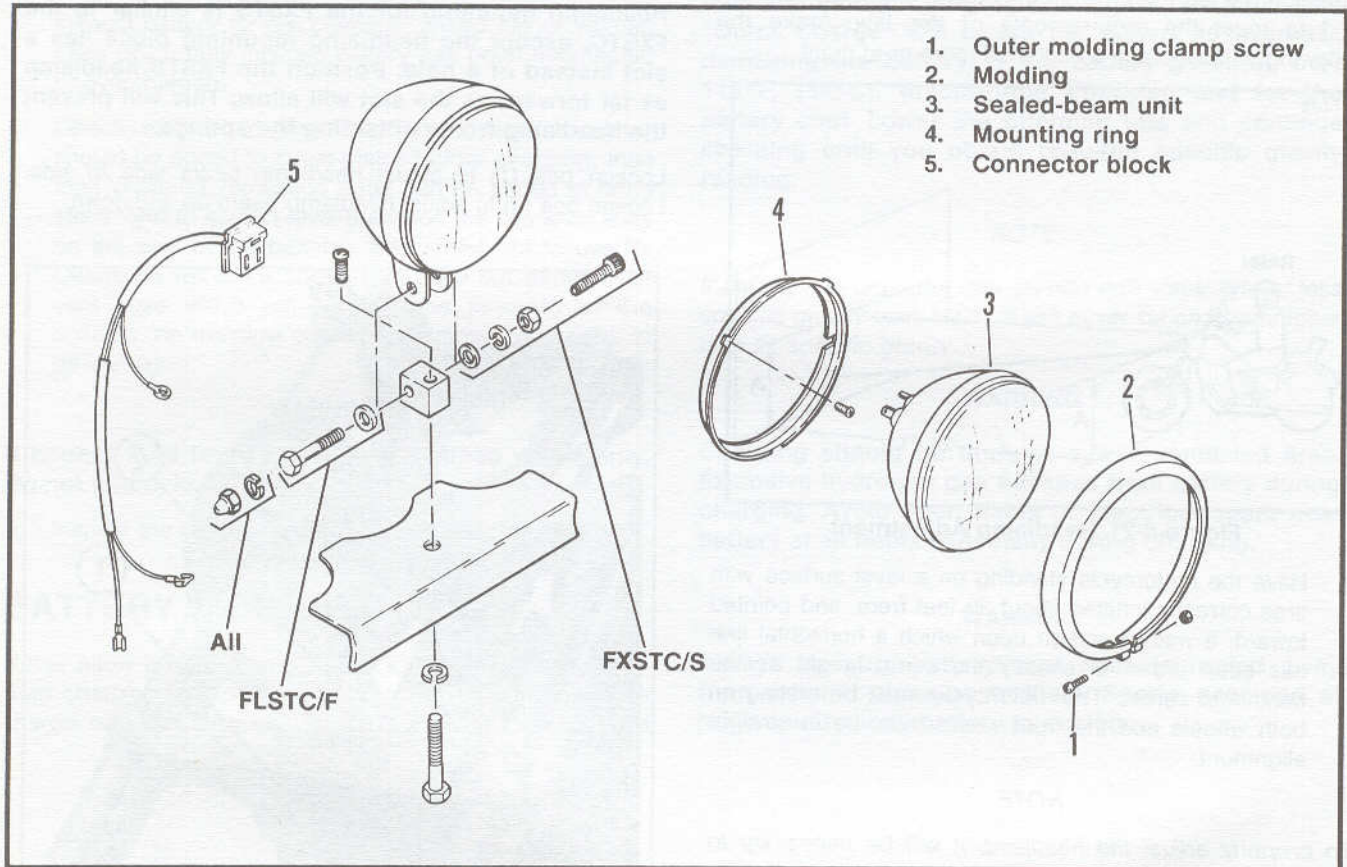

Figure 8-23. Headlamp - 1991
1. See Figure 8-23. Remove outer molding clamp screw (1) and molding (2) to remove sealed-beam unit (3) from mounting ring (4). Pull connector block (5) from sealed-beam unit prongs.